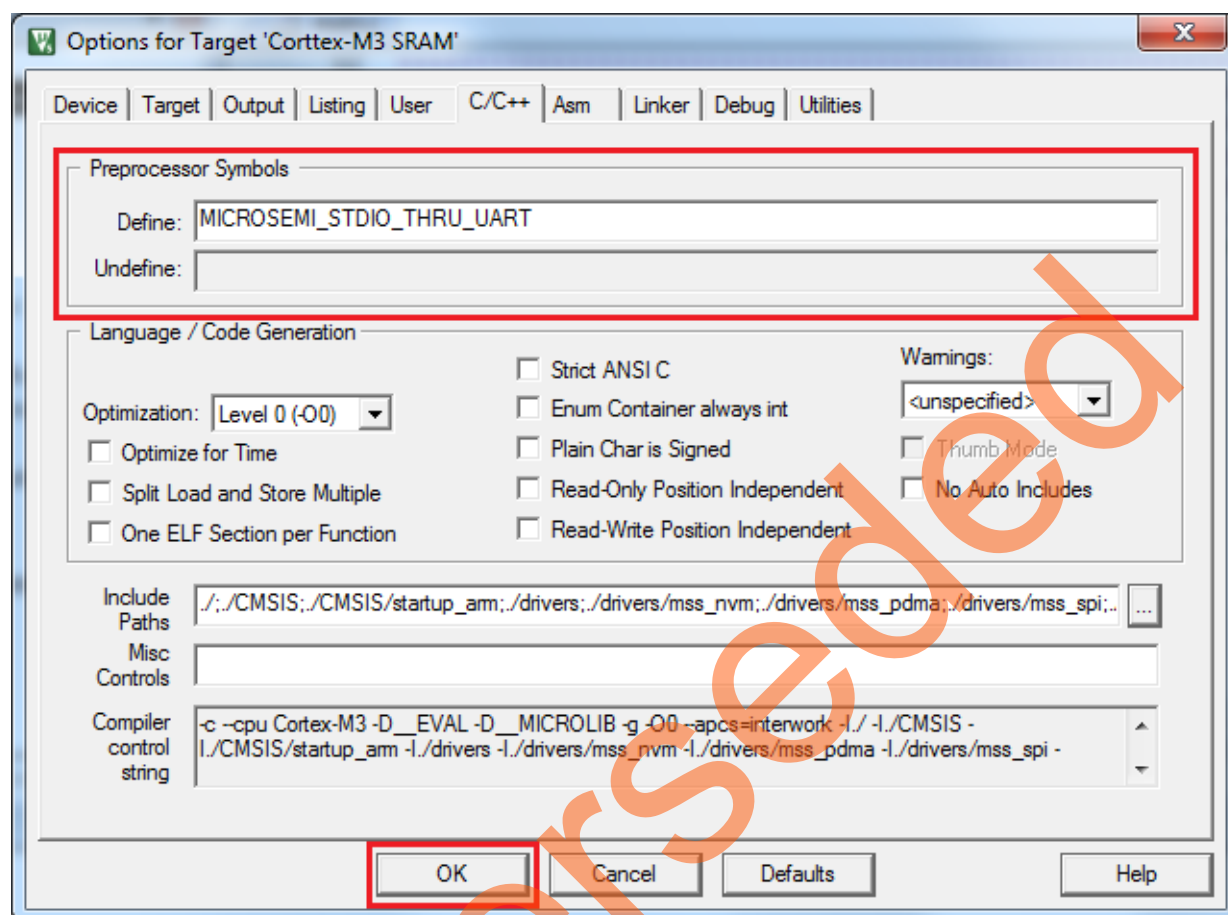

Figure 24 • Target Options-Adding Symbols
- b. Go to **C/C++** tab and enter **MICROSEMI_STDIO_THRU_UART** at **Define** under Preprocessor Symbols as shown in Figure 24 on page 23.